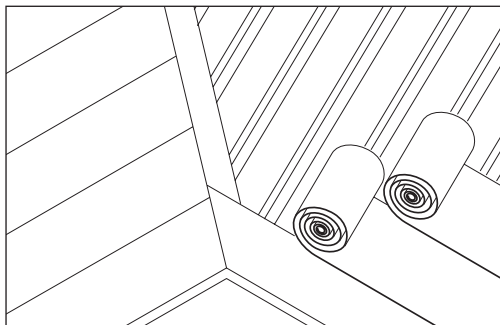

Fig 10 – Underlay at valley
- Where underlay is cut to centre-line of valley, lay a continuous strip of underlay not less than 600mm wide for the full length of valley beneath main courses of underlay (Fig 10).